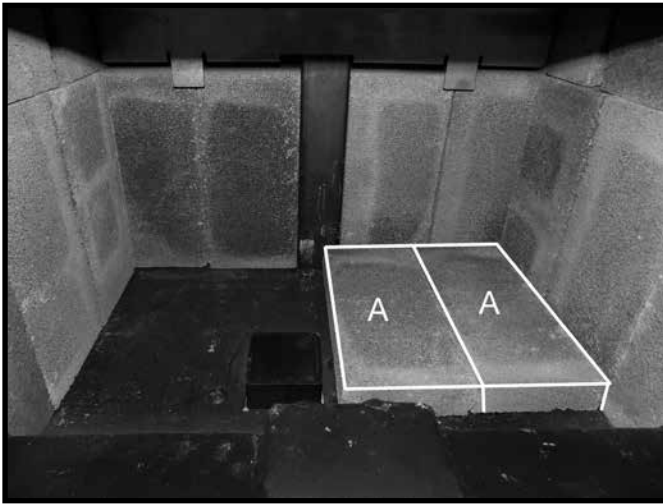

Figure 21. First two floor bricks in place.
- Place two "A" firebricks on the firebox floor as shown in Figure 21. on page 15
- Place 4 "A" firebricks on the firebox in the same direction as the bricks in Figure 21 . Push bricks to the back of the firebox.